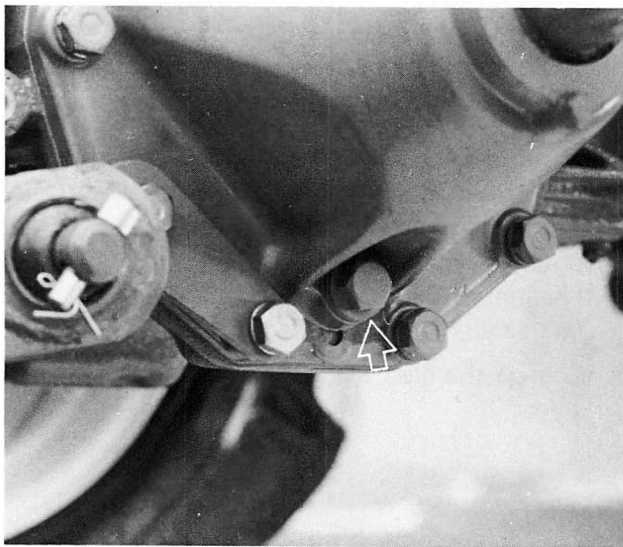

Figure 39 — Transmission, Rear Axle Center Housing and Rear Axle Oil Drain Plugs
1. With the oil at normal operating temperature, drain and discard the oil by removing the transmission, rear axle center housing and rear axle drain plugs, Figure 39. Reinstall the plugs after the oil has drained. Discard the oil.